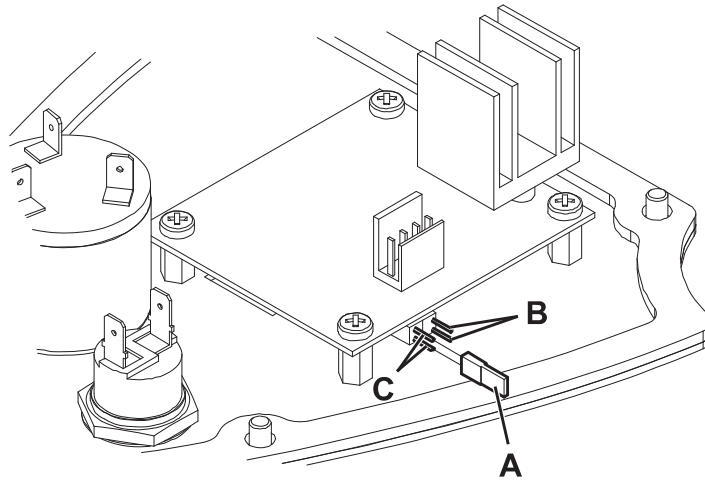

Figure 1
- Disconnect the battery connector (46).
- Remove the screws (83) and carefully remove the right control panel (84).
- Install a jumper wire (A, Fig. 1) on "GEL" connectors (B) for gel batteries.
- Carefully install the control panel (84) and the relevant screws.
- Connect the battery connector (46).